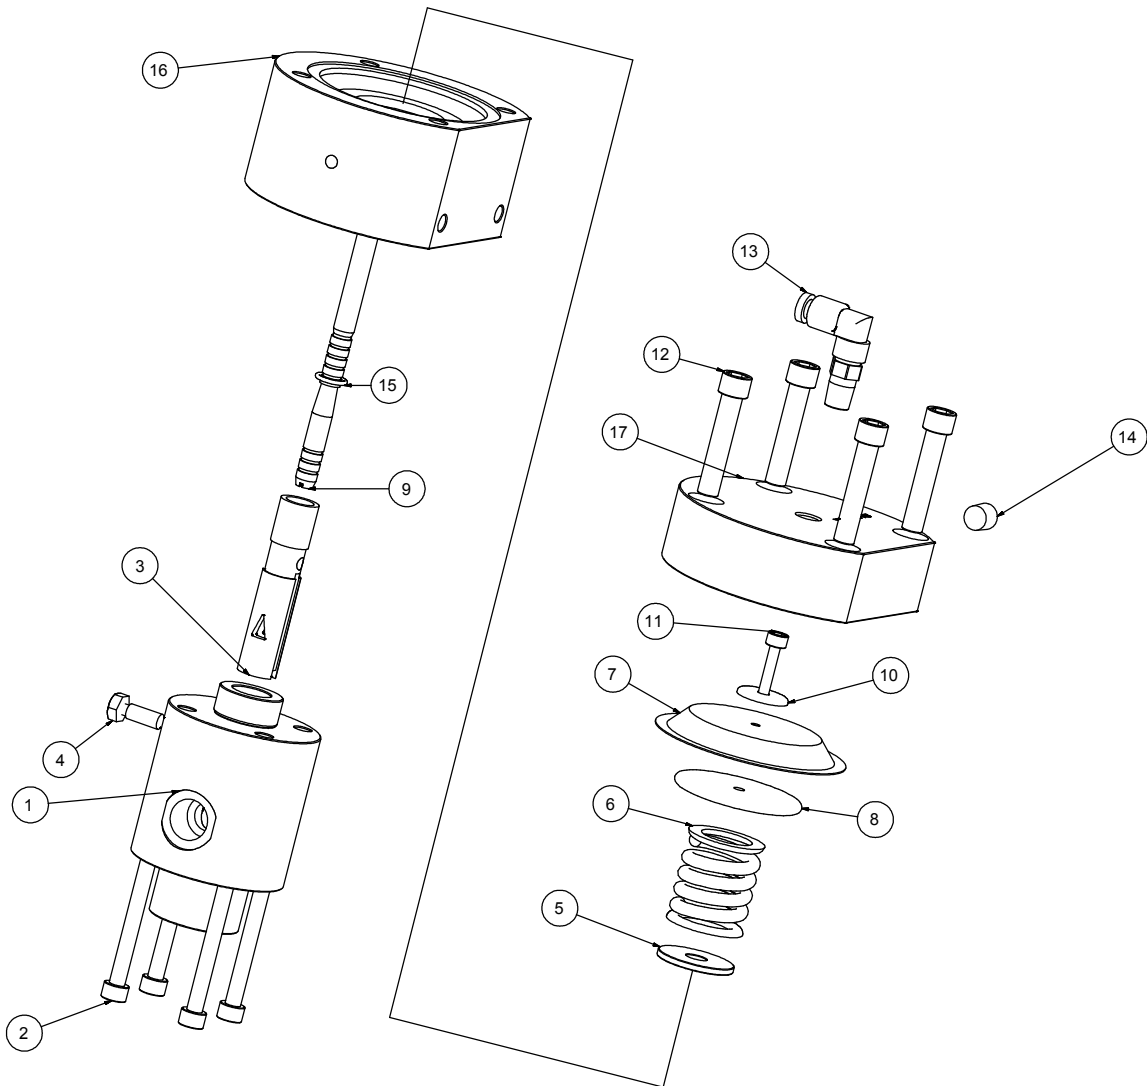

Figure 4: Weeping MVR Assembly
3. Apply a small drop of 7969-031, loctite (blue), onto the cap screw and assemble onto the TR-SSMM-XXX, needle. Tighten the needle using the appropriate Allen wrenches. For exact assembly detail, see Figure 4.
Locate fluid housing assembly with pressed in bushing and insert SSF-8125 [15] Teflon o-ring into the counter bore of bushing as shown in Figure 4. Once installed, lubricate Teflon o-ring with petroleum jelly.
Locate TR-SSF-504 Support washer and place into lower housing as shown in Figure 4. Next place the A10231-00 spring into lower housing as shown in Figure 4.
WEEPING MVR ASSEMBLY - PARTS LIST (Figure 4)